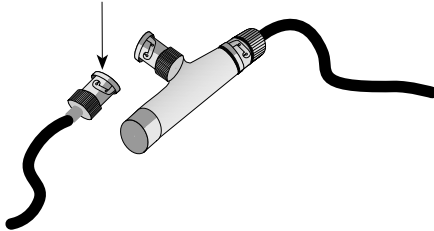

Figure 3-7. Connecting a Thin-Net Segment to an EPIM-C Internal Termination Switch in ON Position
2. If the Internal Termination switch is in the ON position, connect the thin-net segment directly to the BNC port as shown in Figure 3-7.